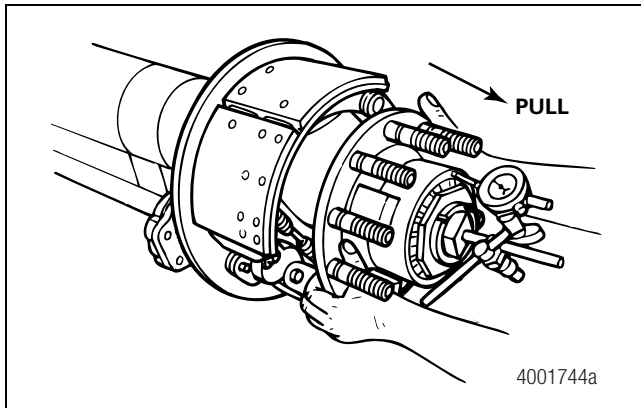

Figure 13.31
3. Pull OUTWARD until the dial indicator does not change. Figure 13.31. The difference between pushing INWARD and pulling OUTWARD is end play.